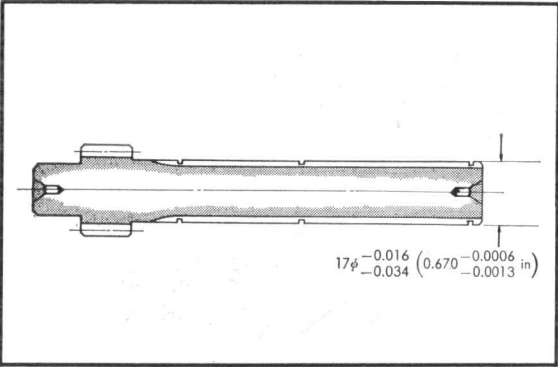

Figure 3-81. Main shaft dimension
- (3) Main shaft (Fig. 3-81, 3-82)